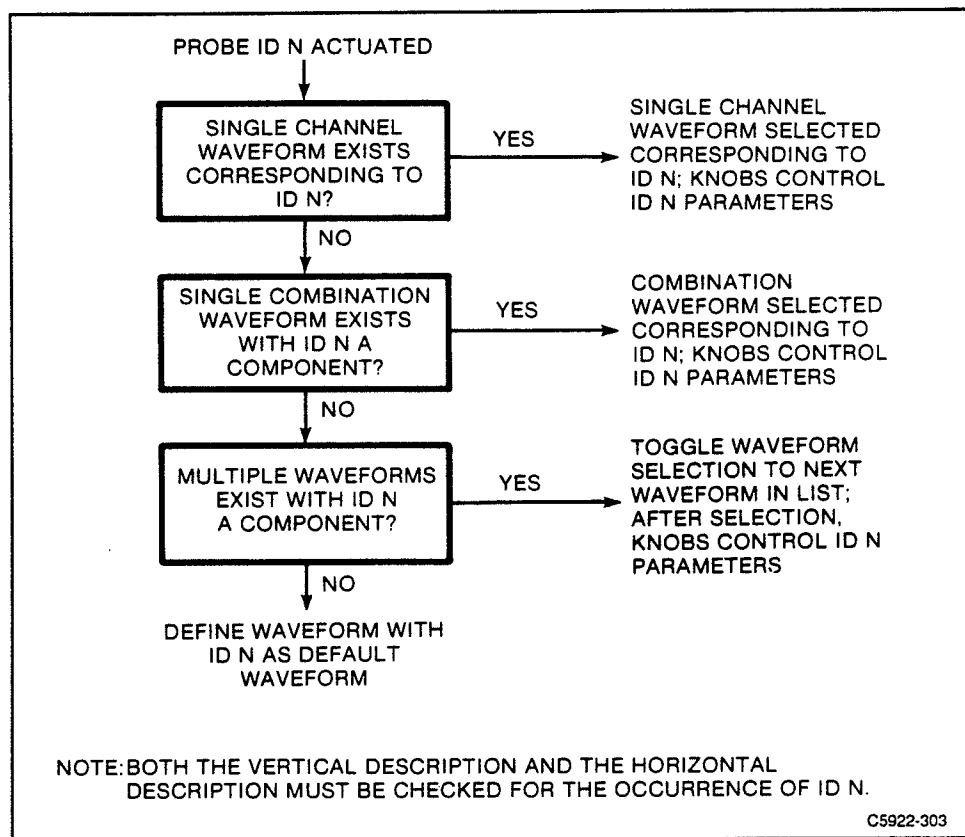

Figure 3-4 Sequence of decisions used to select a new waveform in response to probe ID button.
2. If the **Probe ID Function** (in the **Probes** pop-up menu of the Utility major menu) is set to **Waveform Select/New Wfm**, a waveform will be selected. Figure 3-4 shows the sequence of decisions used to select a new waveform.
3. If the Probe ID Function is set to **Wfm Select/New Wfm & AutoSet**, then the decisions shown in Figure 3-4 will be made, and the resulting selected waveform is autoset.